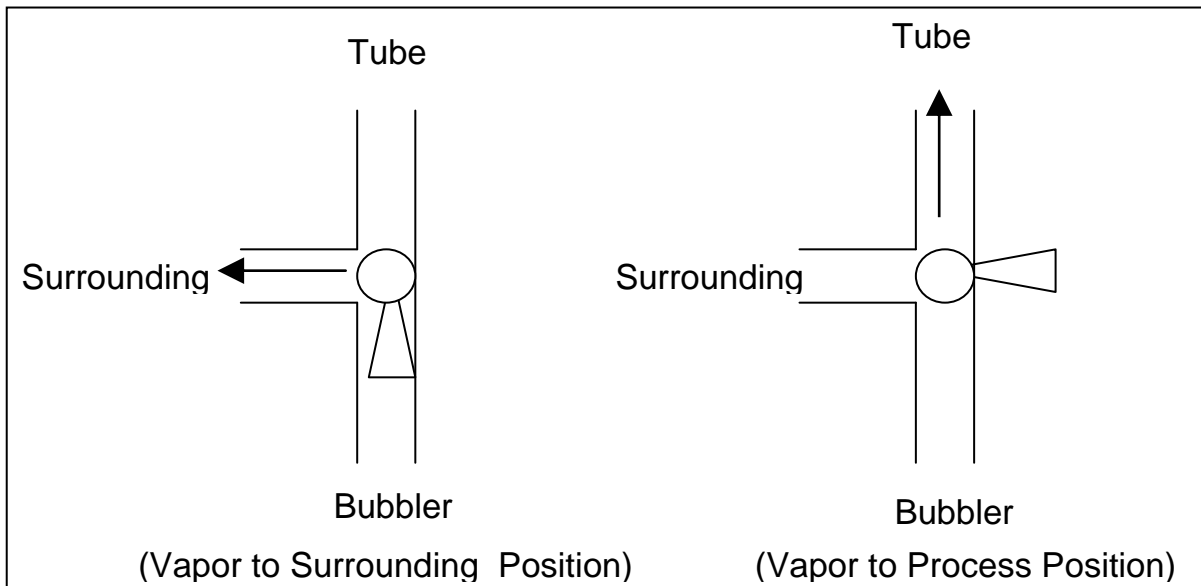

FIGURE 4 - Bubbler Valve Positions
7. Make sure that the bubbler vent valve is venting to the atmosphere by positioning the valve as shown in **Figure 4**.
10. Refer to **Figure 4**: Turn the bubbler vent valve to direct flow into the furnace (vapor to process position).